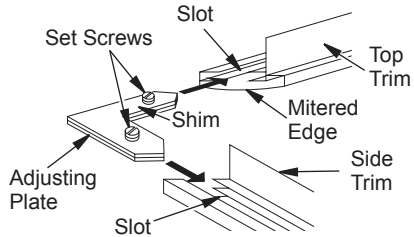

Figure 10 - Assembling Trim
3. Align shim under adjusting plate as shown in Figure 10.
4. Slide one end of adjusting plate/shim in slot on mitered edge of top trim (see Figure 10).
5. Slide other end of adjusting plate/shim in slot on mitered edge of side trim (see Figure 10).